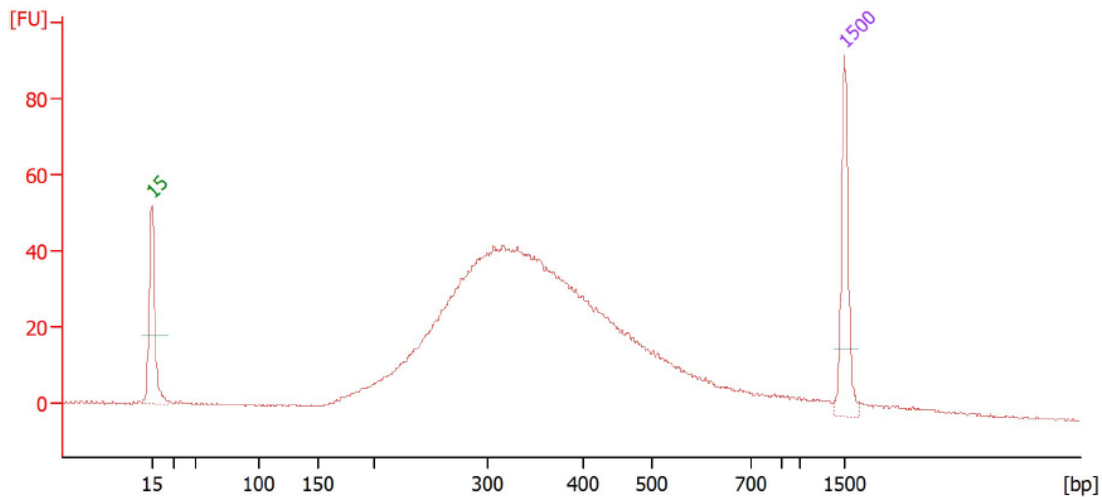
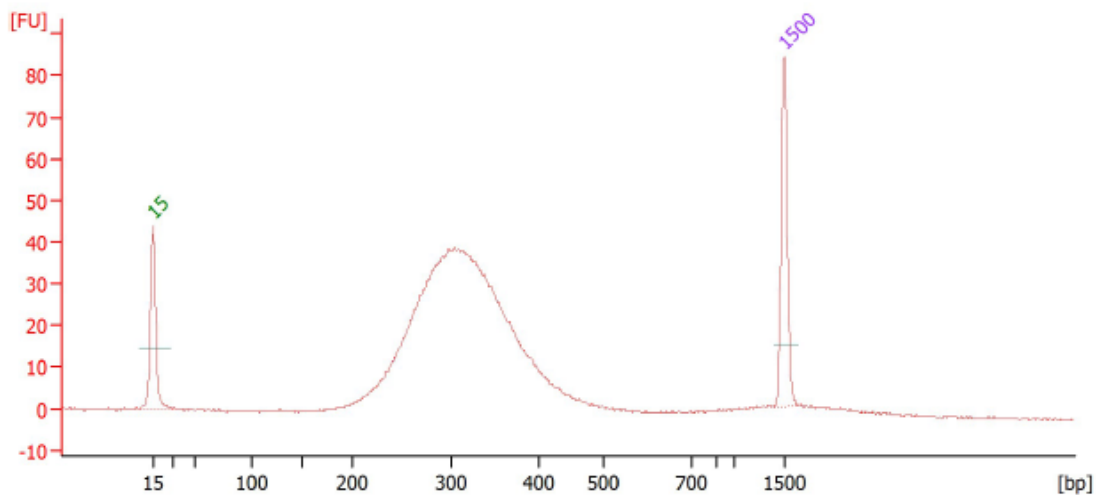

Figure 2: Example of an amplified HyperPlus sample library analyzed using an Agilent Bioanalyzer DNA 1000 assay
Figure 3: Example of an amplified Hyper Prep sample library analyzed using an Agilent Bioanalyzer DNA 1000 assay
- Pre-capture libraries should display a fragment size distribution in the range of 150 to 500 bp, with a peak at ~ 320 bp (Figure 2, Figure 3). The negative control should not show any significant signal within this size range, which could indicate contamination between amplified sample libraries. Sharp peaks may be visible in the region <150 bp. These peaks correspond to unincorporated primers, primer-dimers or carry-over adapter-dimer and will not interfere with the capture process.